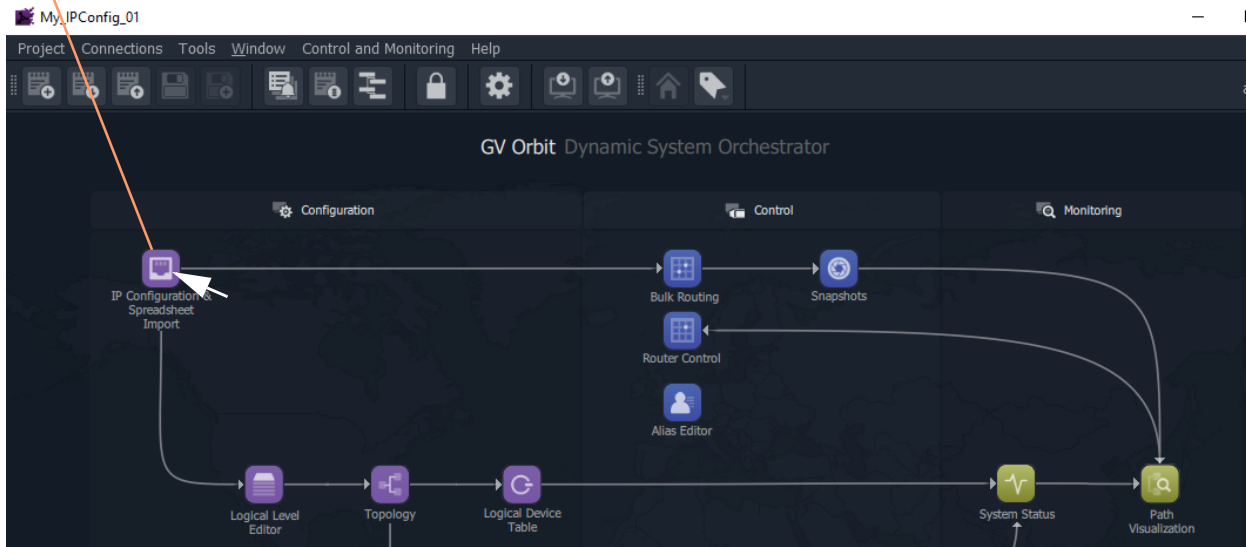

Fig. 11-5: IP Configuration and Spreadsheet Import Icon in the Routing Workflow Screen
- 2 Click on the 'IP Configuration and Spreadsheet Import' icon. See Figure 11-5.